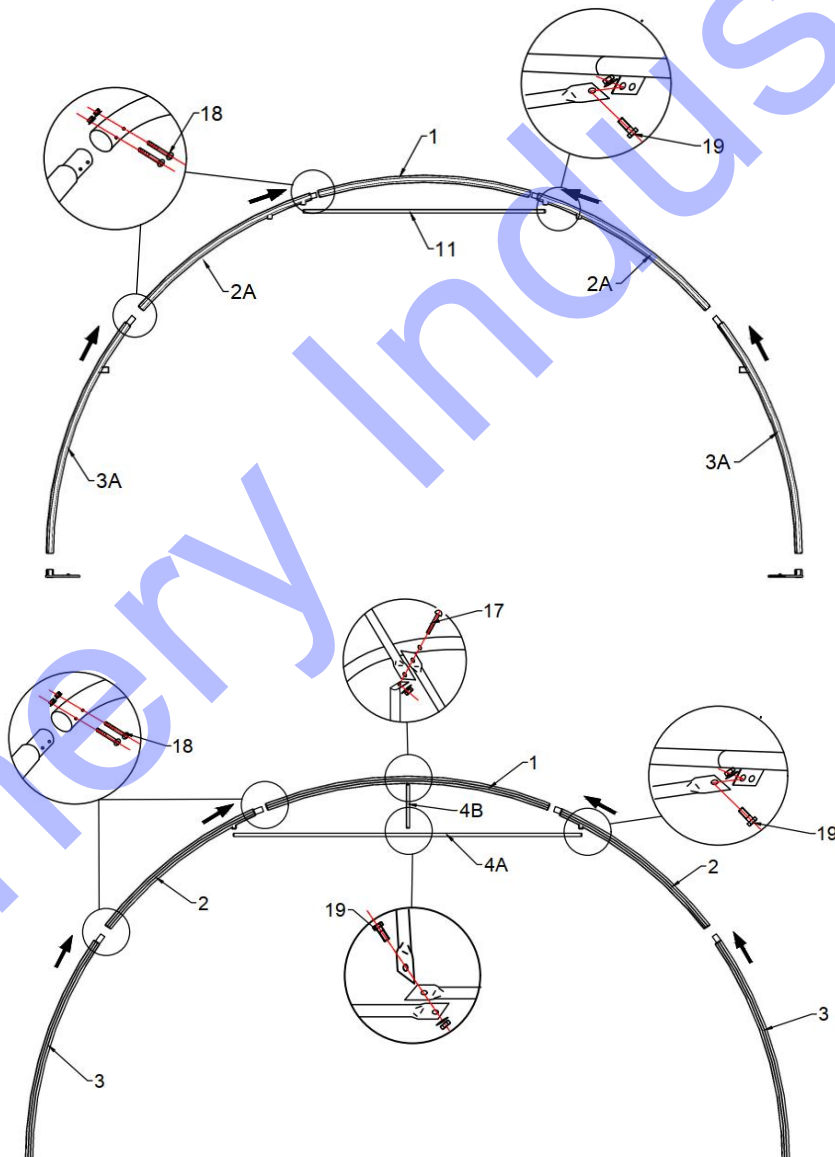

Figure 4
1. As Figure 4 shown to find one Roof Bent Tube (No.1), two pieces of Middle Bent Tubes for doors (No. 2), Lower Bent Tube (No. 3) and assemble every group arch with Screw M8x60 (No.18). DO NOT install the screw on the top of the truss where the fabric will rest.